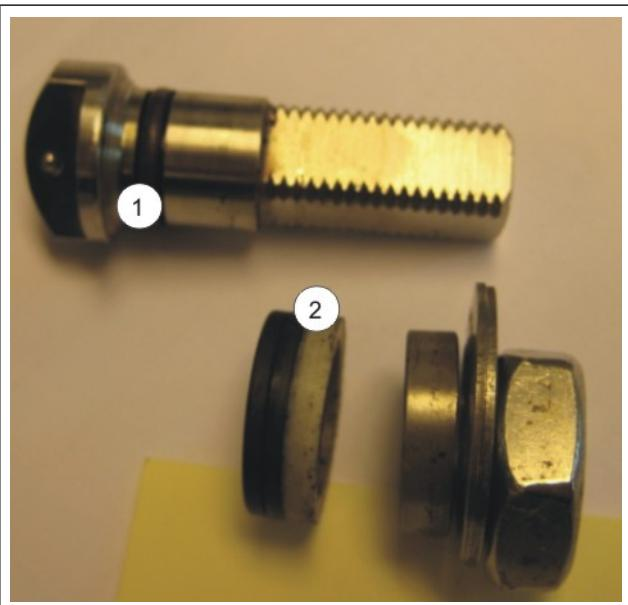

Fig. 16. Replace these seals.
5. Replace the stem O-ring (Fig. 16, part 1) and the three seals (parts 2).